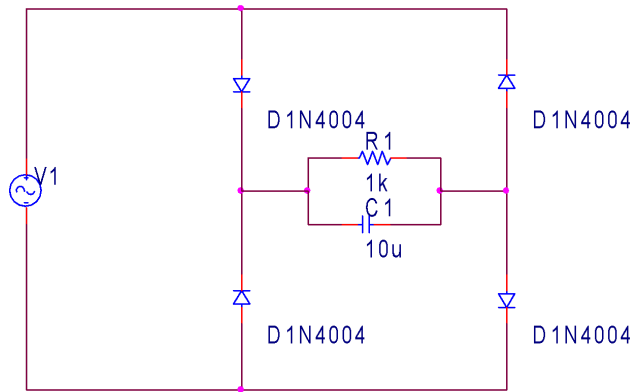

Figure 3: Diode rectifier bridge circuit
1. In Spice, implement one of the Exercise 2 diode circuits (Figure 3, shown below). Set the source voltage to a 250 Hz, 4 Vpp sinusoidal signal. Recall: $P = V_{\text{RMS}} \times I_{\text{RMS}} = I_{\text{RMS}}^2 \times R = V_{\text{RMS}}^2 / R$. Also recall, for a sinusoidal wave: $V_{\text{RMS}} = V_{\text{Amplitude}} / 2^{1/2}$